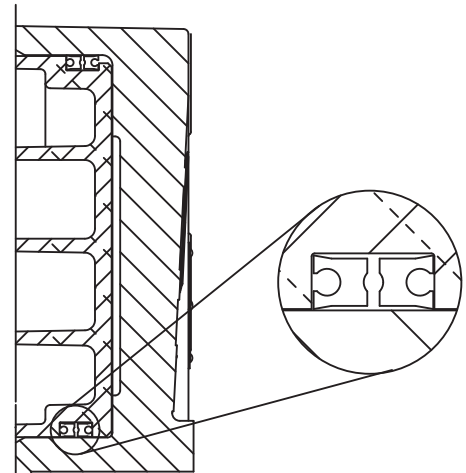

Figure 20
- 4.6.10 Install the new seals in the grooves in the piston, noting the orientation of the seal lips. See Figure 20.
- 4.8.11 Install the new seals in the grooves in the piston, noting the orientation of the seal lips. See Figure 20